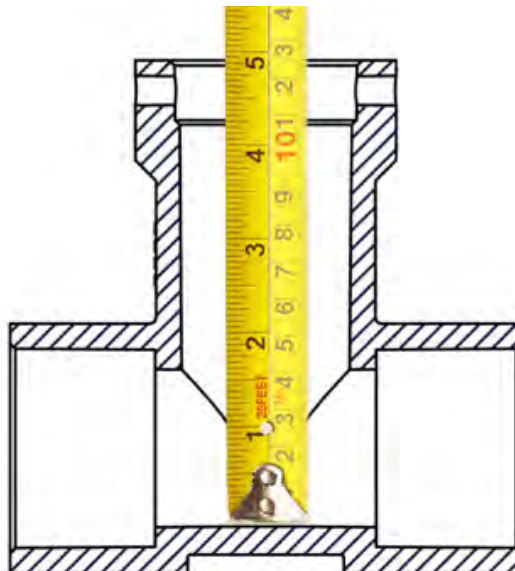

Figure 11
1. Dipstick Method (For 2 in., 3 in. and 4 in. meters only): The interior depth of the meter body indicates its size. To check, remove the old insert from the meter body and insert the end of a stiff tape measure down into the insert bore until it touches the bottom of the meter body bore. Read the depth shown on the tape measure at the top of the Tee housing (see Figure 11) and compare with dimension “D” in the specifications section (see Figure 1).